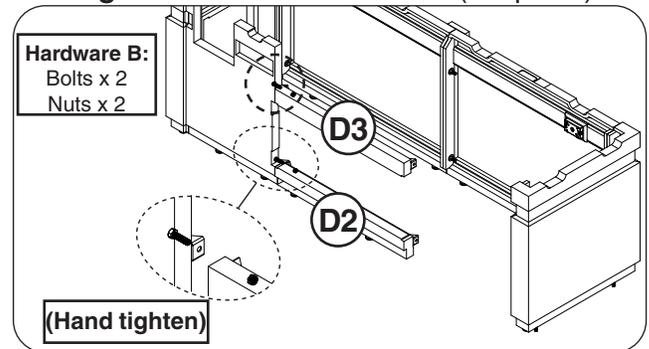

Fig. 10-3 Assemble top and bottom beams
2. Orient the bottom beam (D2) as shown. Carefully align the pilot holes, and insert the hardware (hardware kit B) in the order shown. Hand tighten only. See Fig. 10-3.
3. Orient the top beam (D3) and repeat the hardware installation process (hardware kit B). Hand tighten only. See Fig. 10-3.